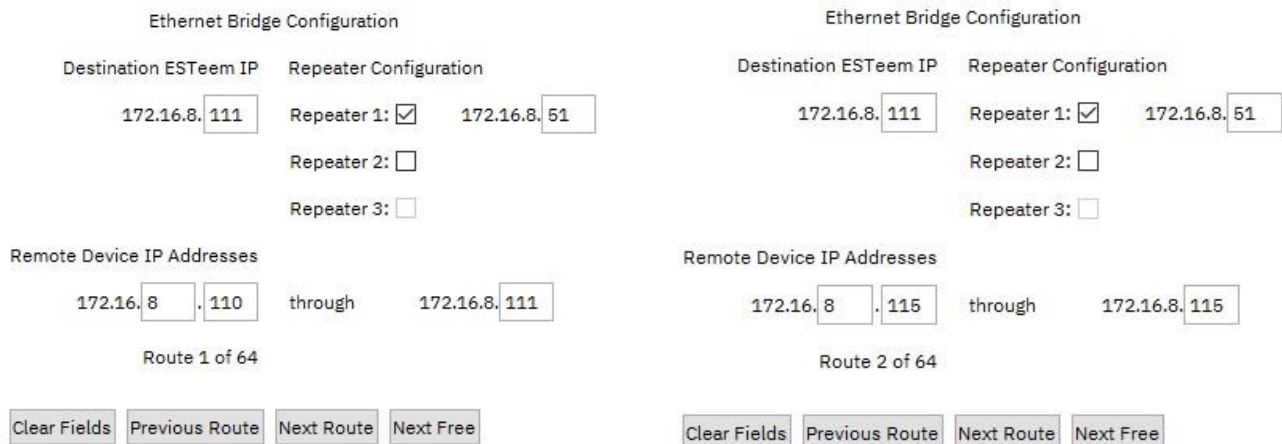

Figure 5: Radio 1 Routing Example
- D. Enter the second Routing entry. Enter the Destination ESTeem IP for Radio 3 (Remote) 172.16.8.111. There is 1 Repeater for this route, check the box next to Repeater 1 and enter the IP Address for Radio 2 (172.16.8.51). The Remote Device IP Addresses for this link are 172.16.8.115 – 172.16.8.115. Press “Next Route” button. (Figure 5)